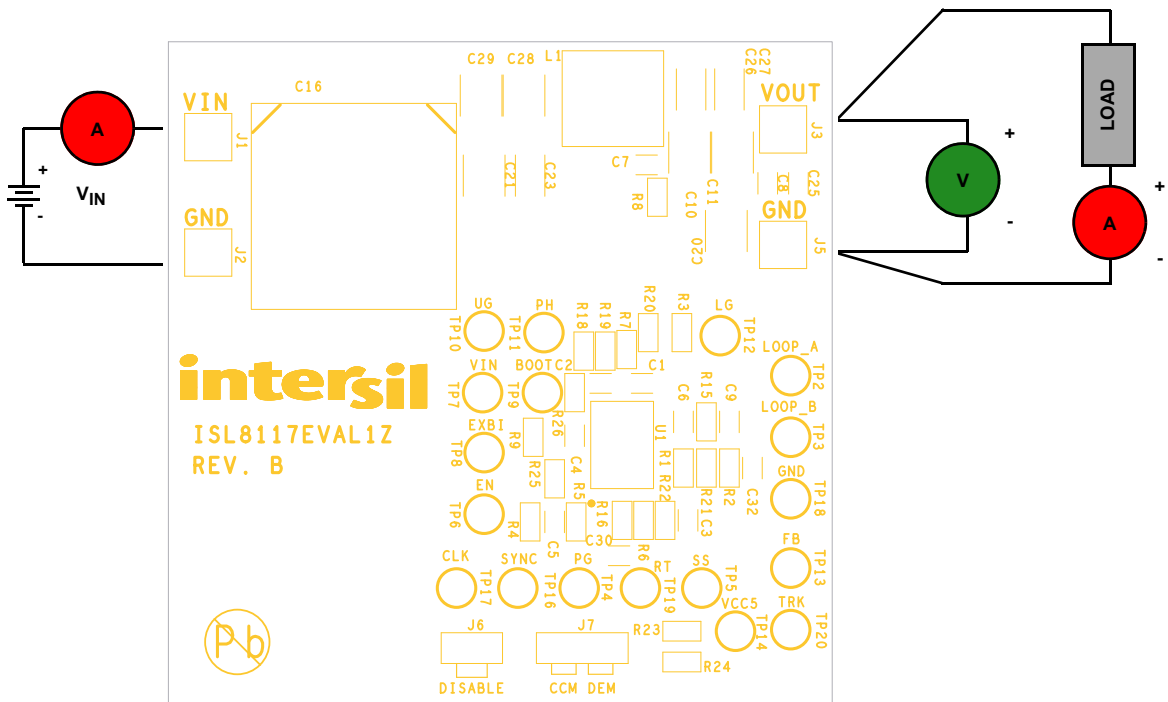

FIGURE 4. PROPER TEST SETUP
1. Jumper J7 provides the option to select CCM or DEM. Please refer to Table 2 for the desired operating option. Ensure that the circuit is correctly connected to the supply and electronic loads prior to applying any power. Please refer to Figure 4 for proper setup.
As shown in Figure 4 on page 3, 4.5V to 60V  $V_{IN}$  is supplied to J1 (+) and J2 (-). The regulated 12V output on J3 (+) and J5 (-) can supply up to 6A to the load.